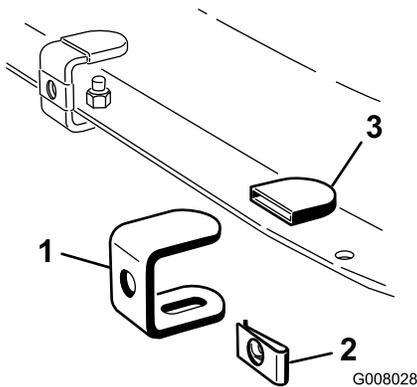

Figure 1
- Assemble three brackets as shown in (Figure 1) using three rubber caps, three speed nuts and three brackets.